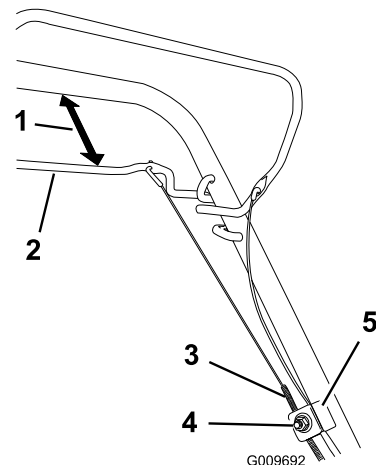

Figure 25
1. Loosen the cable support nut (Figure 25).
2. Hold the self-propel bail 1 to 1-1/2 inches (25 to 38 mm) from the handle (Figure 25).
3. Pull down the cable jacket (toward the mower) until there is no slack in the cable (Figure 25).